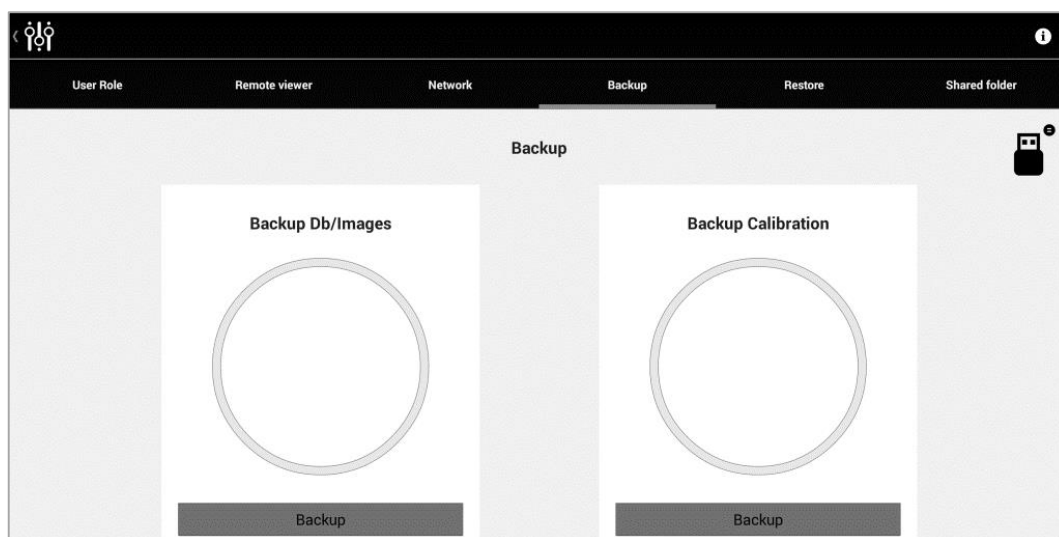

Fig. 37 – Configurator – Backup screen
- Click on the “BACKUP” tab of the Configurator screen (see Fig. 37);